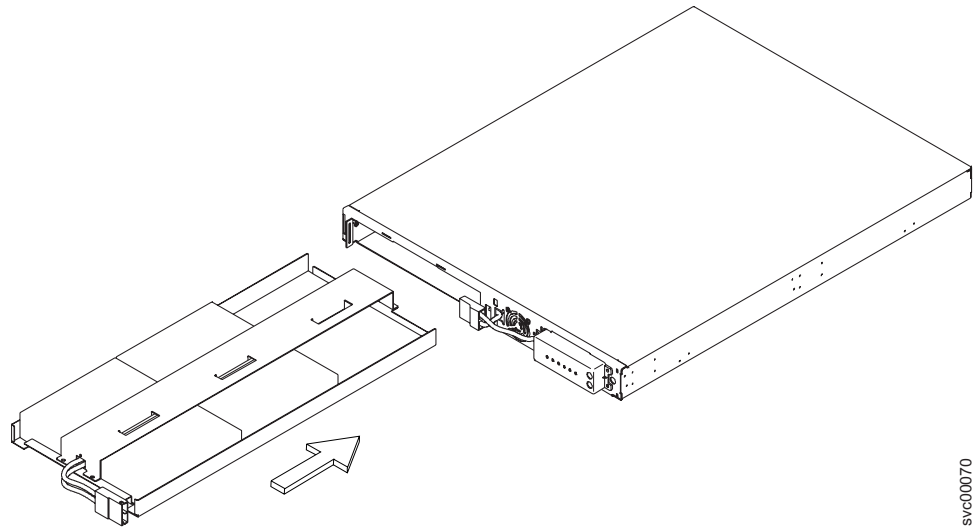

Figure 224. Replacing the 2145 UPS-1U battery
1. Slide the battery into the 2145 UPS-1U, as shown in Figure 224.